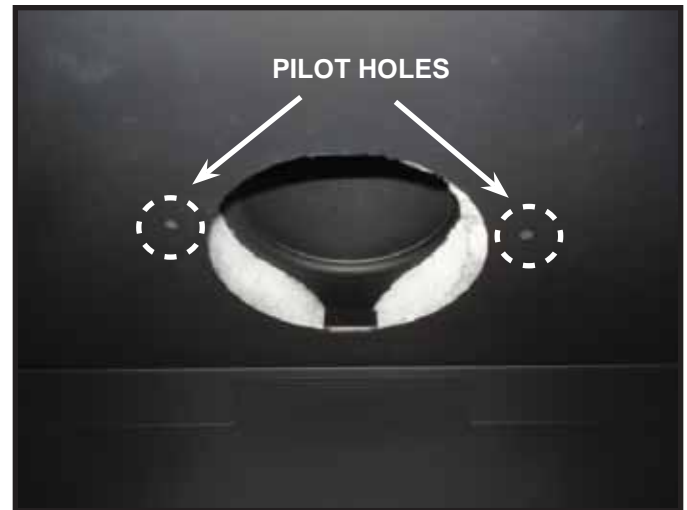

Figure 7.6 Location of Pilot Holes
1. Locate the two pilot holes located in the inside firebox heat shield as shown in Figure 7.6.